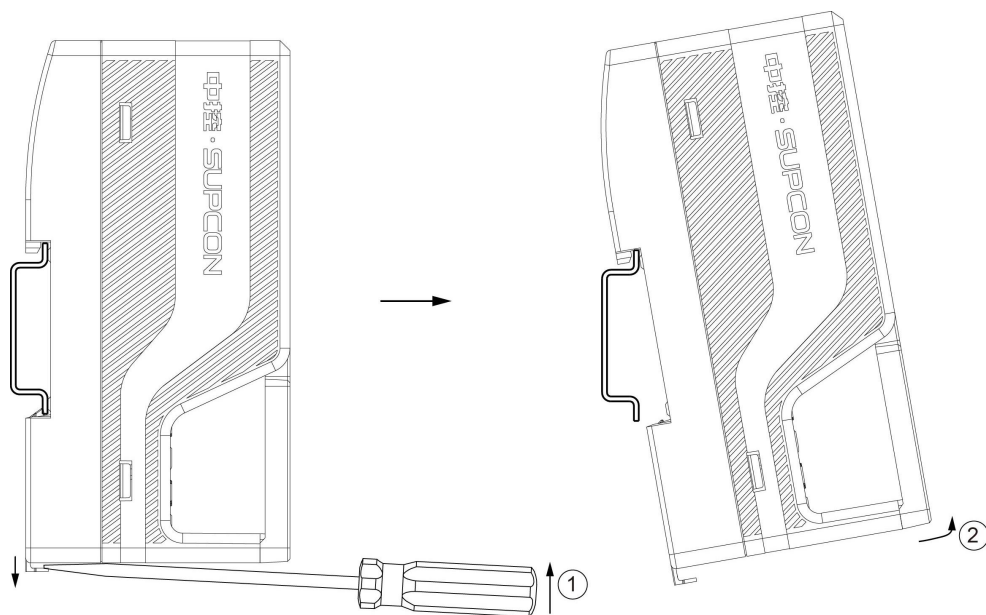

Figure 6-3 Disassemble the module
- 2) Pry open the active tab with the slotted screwdriver (medium or small size), as ① shows in Figure 6-3.
- 3) Rotate the module, as ② shows in Figure 6-3.